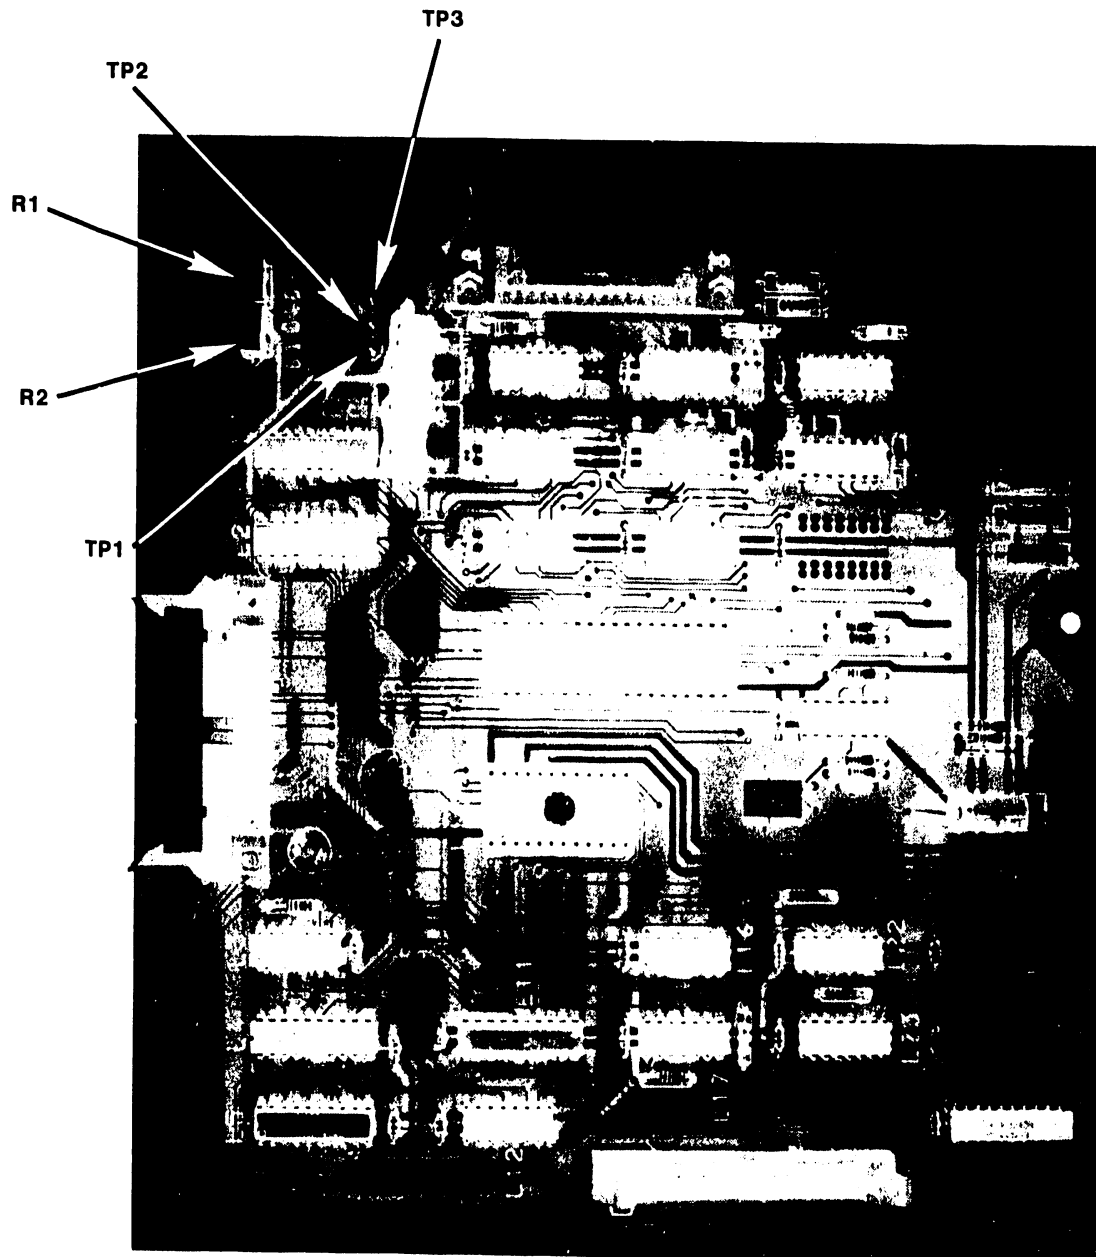

Figure 5-1. 210-7610 Mini-diskette Drive
- k. Connect probe 1 to TP₁ (L6-7). (Figure 5-1.)
- l. Connect probe 2 to TP₂ (L6-9). (Figure 5-1.)